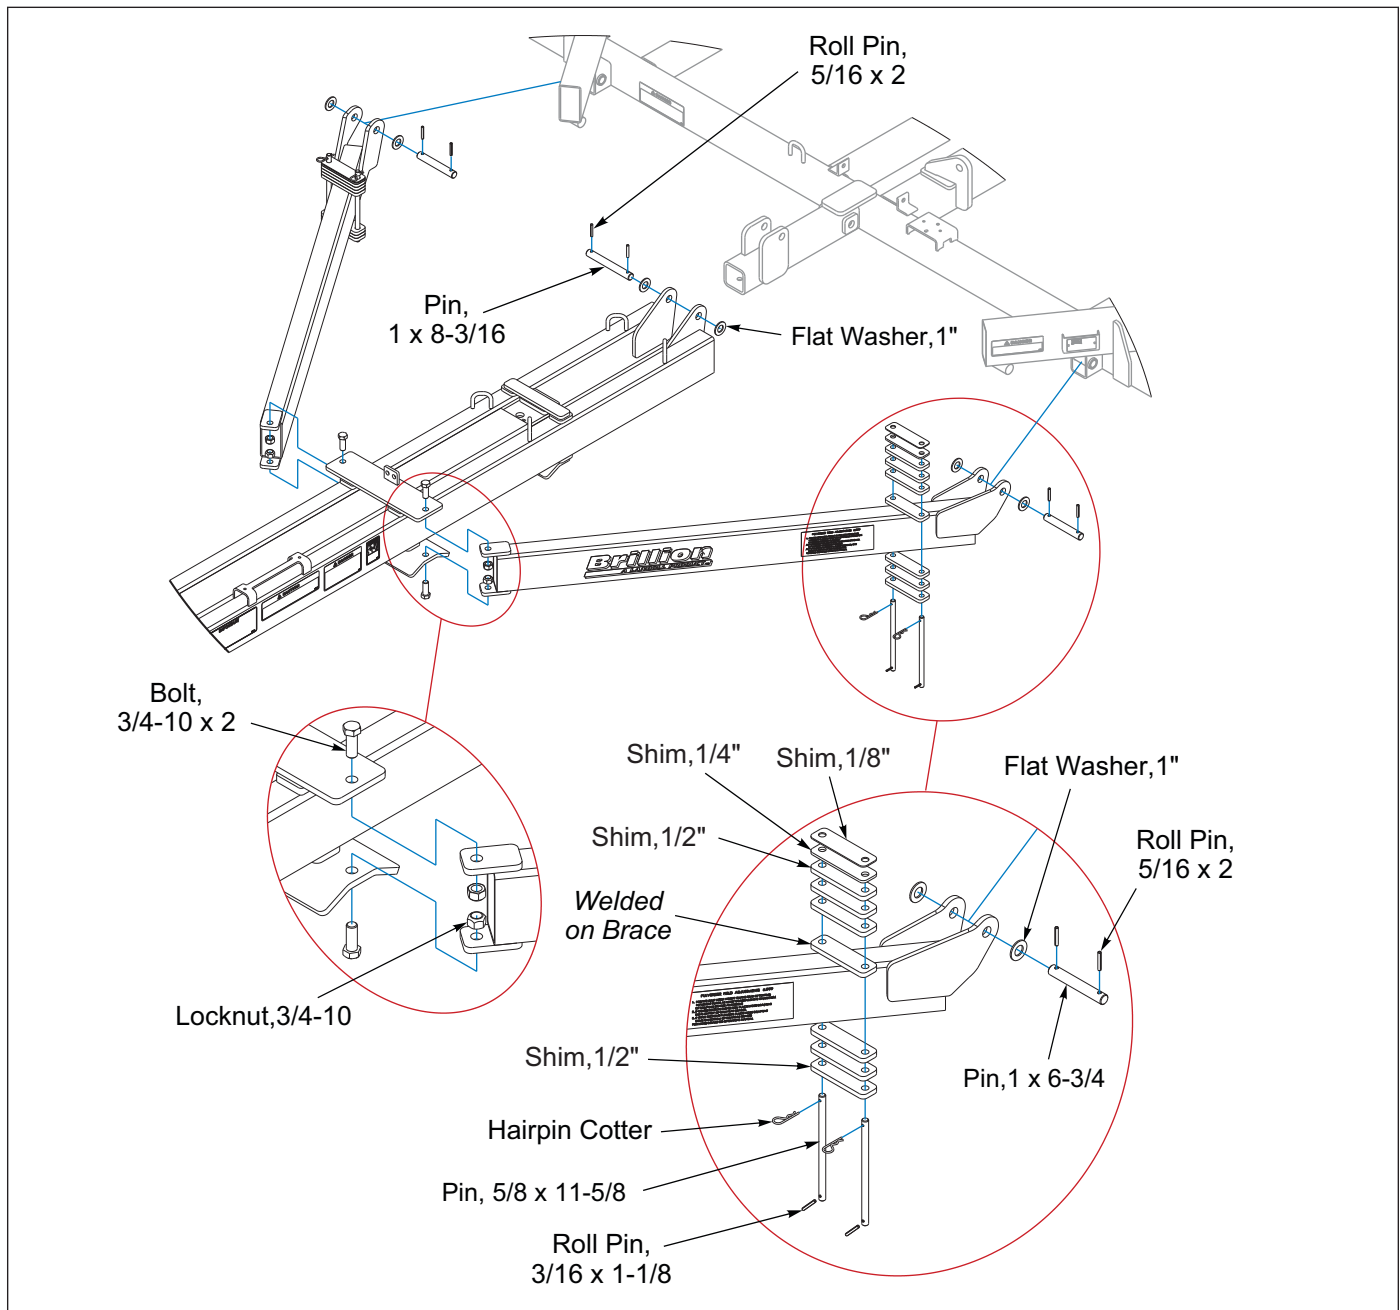

Figure 2-7: Drawbar and Brace Installation
1. Attach the Drawbar to the Frame by inserting 1 x 8-3/16 Pin through the Drawbar Lugs and the Frame Mounting Tubes. Place a 1 inch Flat Washer on each side and secure with 5/16 x 2 Roll Pin. The Drawbar Braces are left and right. Set the end of the Brace with straight straps between the straps on the Drawbar. Attach the end of the Brace with bent plates to the Center Frame using 1 x 6-3/4 Pin with a Flat Washer on each end and 5/16 x 2 Roll Pins. See Figure 2-7.